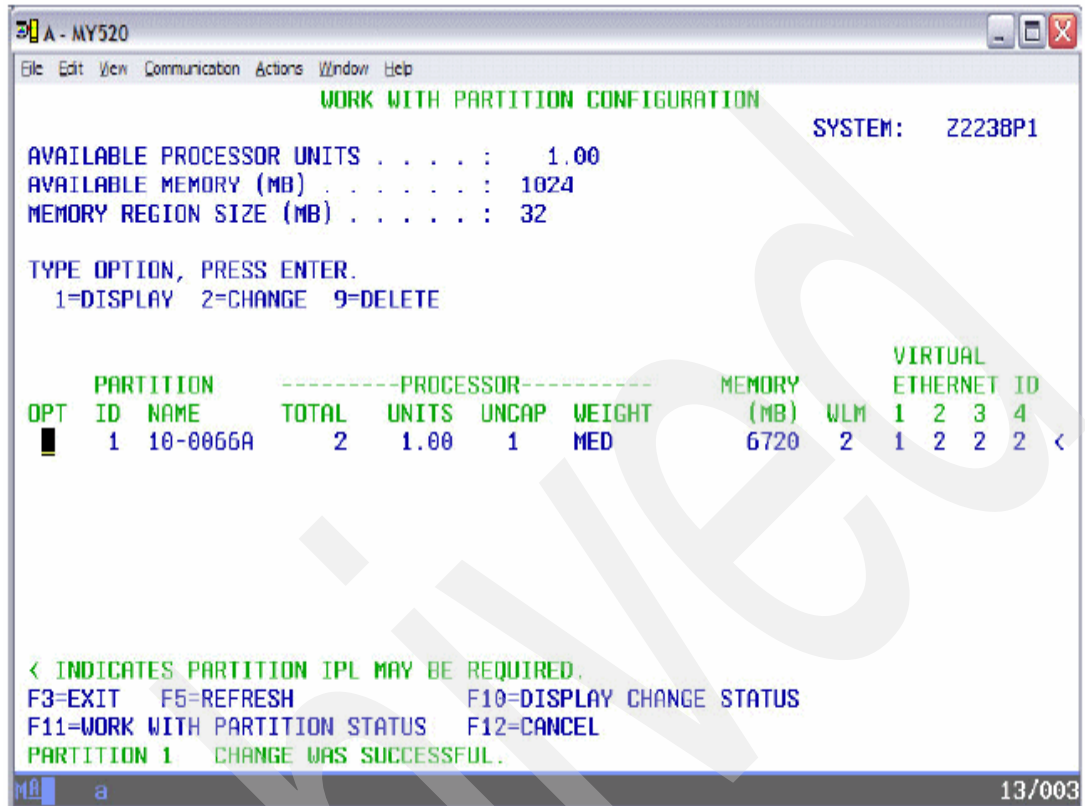

Figure 13-12 Partition Change Successful
9. Press Enter again on the Confirm Changed Partition screen, which will complete the changes required on the i5/OS partition (Figure 13-12).
Notice that the changes made to i5/OS resources requires an IPL of the system, as indicated by the "<" in Figure 13-12. There is no need to perform this task at present, you can perform the IPL once you define all of the Linux partitions.